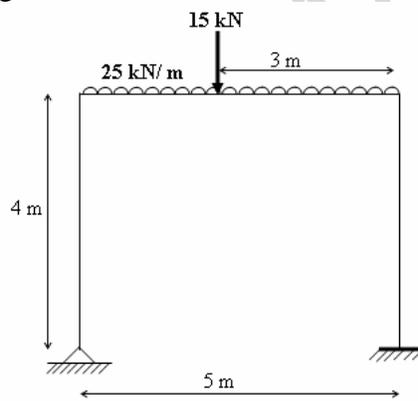

Fig. 5
7. Analyze the plane frame shown in Fig.5 using flexibility method and draw the bending moment diagram. [16]